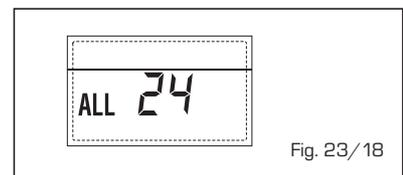

Fig. 23/18
**- ANOMALÍA SONDA ACUMULADOR SOLAR (S2) "ALL 25" (fig. 23/19)**